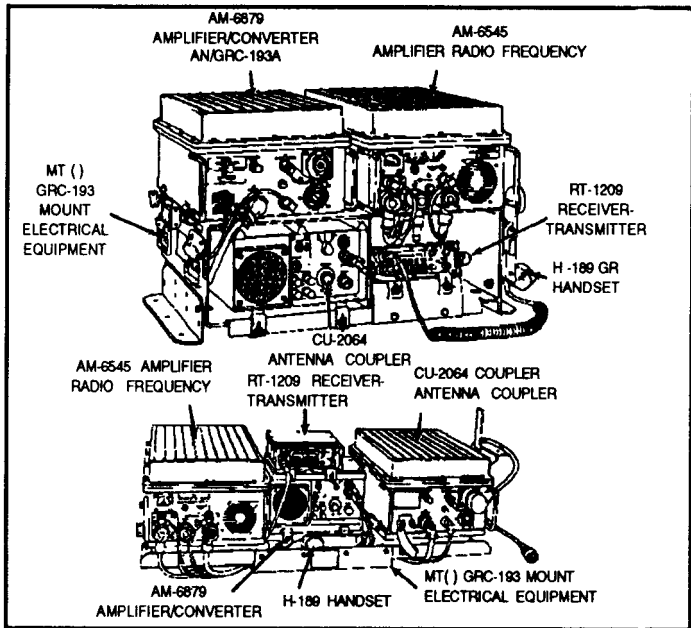

Figure 4-15. Radio set, AN/GRC-193A.
**AN/GRC-193A.** This radio set is high-powered and can be used in a vehicular or fixed station configuration. See Figure 4-15. IHFR sets perform retransmission for CNR when connected through the AN/VIC-1. Although more complex and bulkier than the other configurations, the AN/GRC-193A having strong output makes it ideal for long-range vehicular communications. The AN/GRC-193A radio is secured with the KY-65. Its components are—